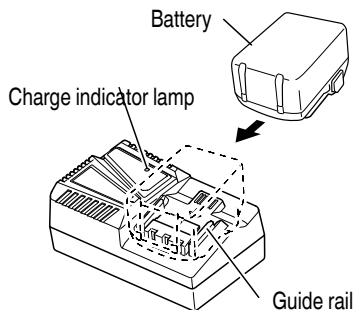

Fig. 11
2. Insert the battery to the battery charger. Firmly insert the battery into the battery charger as shown in Fig. 11.